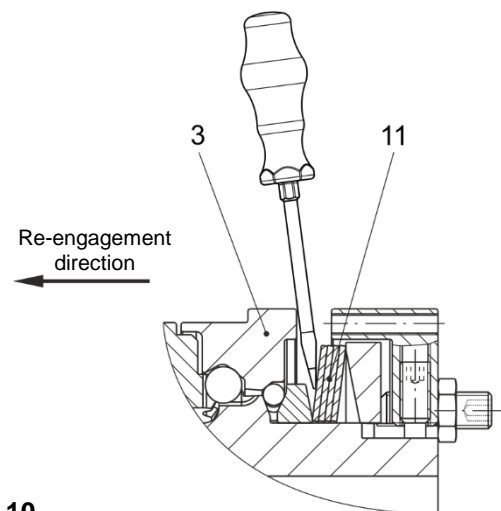

Fig. 10
- By using two screwdrivers, applied opposite each other and supported by the cup springs (11), see Fig. 10.